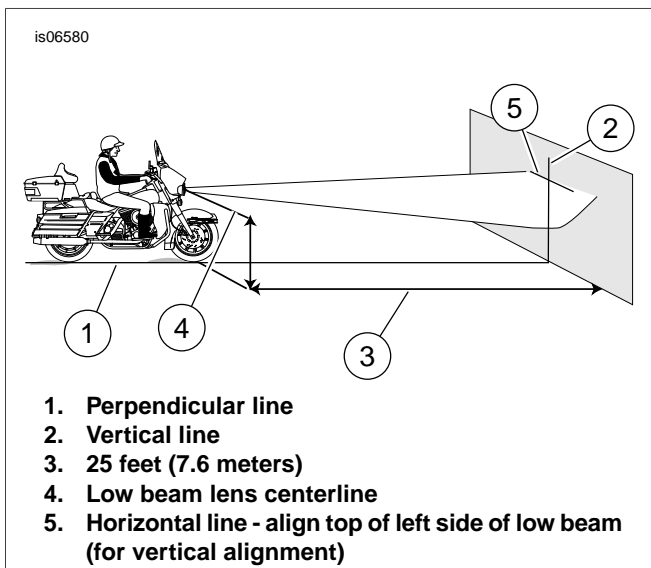

Figure 2. Checking Headlamp Alignment
- See Figure 2. Position motorcycle so that front axle is 25 feet (7.6 meters) (3) from wall.
- See Figure 2. Draw a horizontal line on the wall at (5) on the wall that is the same measurement as the measurement recorded in Step 4.
- Draw a vertical line (2) off of the perpendicular line (1) so that it crosses through the horizontal line drawn in the previous step.